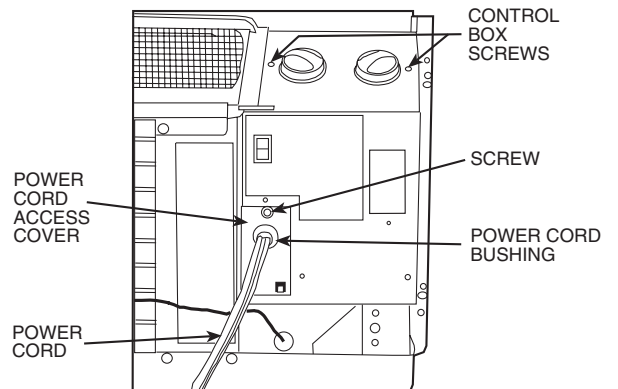

Fig. 3 — Control Box Component Location
Step 3 — Remove power cord access cover and save screw for later use. See Fig. 3.
Step 4 — Open control box by removing 2 screws. Save screws. See Fig. 3.
Step 3 — Remove the power cord access cover from control box and disconnect plug assembly. See Fig. 3 and 5.